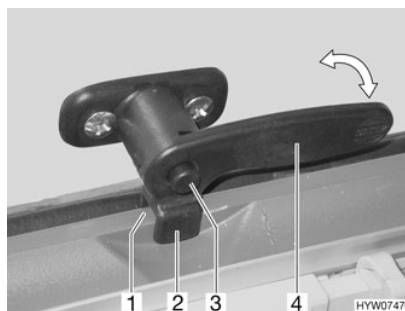

Fig. 21 Catch lever with safety knob in "continuous ventilation" position
- "continuous ventilation" (Fig. 21)
- Press the safety knob (Fig. 21,3) and keep it pressed.
- Turn the catch lever (Fig. 21,4) a quarter turn towards the centre of the window.
- Turn the catch lever (Fig. 21,4) a quarter turn towards the window frame. Move the fork (Fig. 21,2) on the catch lever into the window catch (Fig. 21,1).
- Release the safety knob (Fig. 21,3).